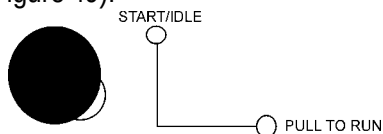

Figure 49. Engine Throttle Lever (IDLE)
7. If the generator is equipped with a engine throttle lever, make sure the lever is pushed in and set to 'IDLE' (Figure 49).